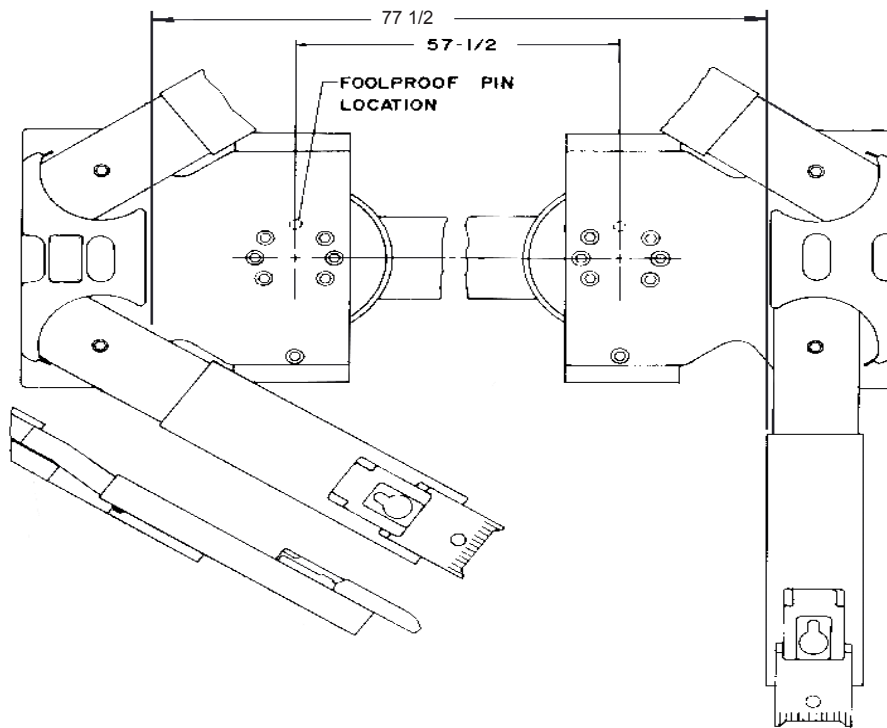

Fig. 6
12. **ASSEMBLING OF SUPERSTRUCTURES. (FIG.6)**